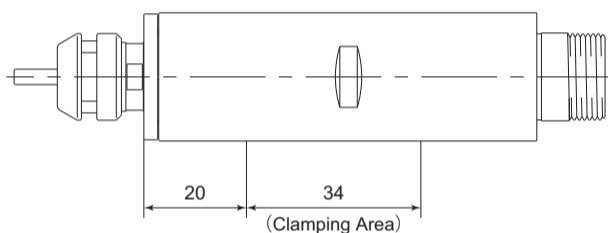

Fig. 7
- When mounting the spindle, refer to the Clamping Area etched on the spindle. (Fig. 7)